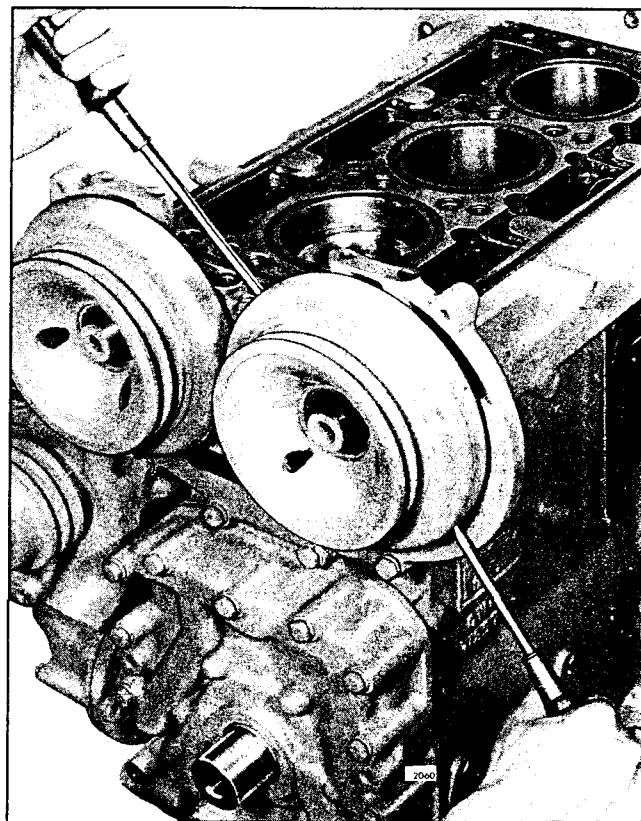

Fig. 1 - Removing Front Balance Weight (Pulley Type)
2. Force the balance weight off the end of each shaft, using two screw drivers or pry bars between the balance weight and the upper front cover as shown in Fig. 1.